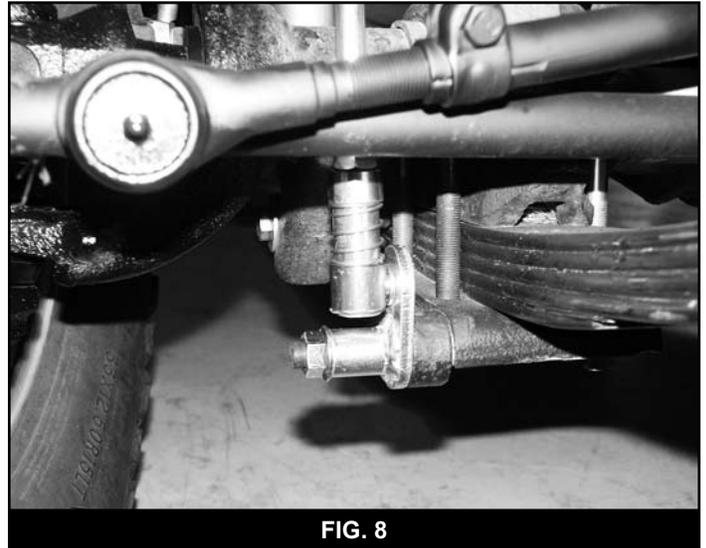

FIG. 8
34. Ensure that the vehicle is setting level. Pull the spring collar up on the disconnect end and attach it to the ball stud (Fig 8). Make sure that the disconnect end stud hole is square with the ball stud and tighten the jam nut against the disconnect end. The disconnects allow for $\frac{1}{2}$ " of adjustment ($\frac{1}{2}$ " longer from full-bottomed out). If necessary, adjust the links side-to-side to compensate for any unevenness in the vehicle allowing for the easiest possible disconnecting of the ends.